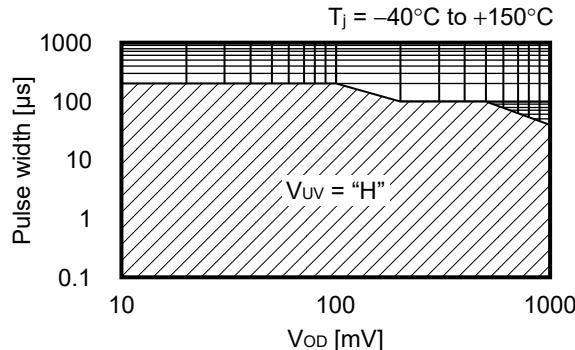

Figure 21
Figure 21 shows the relation between pulse width and pulse voltage difference ( $V_{OD}$ ) where the undervoltage release status can be maintained when a pulse equal to or lower than the undervoltage detection voltage ( $V_{UVDET}$ ) is input to the SENSE pin during undervoltage release status.
**Caution** Figure 21 shows the pulse condition which can maintain the undervoltage release status. If the pulse whose pulse width and  $V_{OD}$  are larger than this condition is input to the SENSE pin, the UV pin may change to an undervoltage detection status.